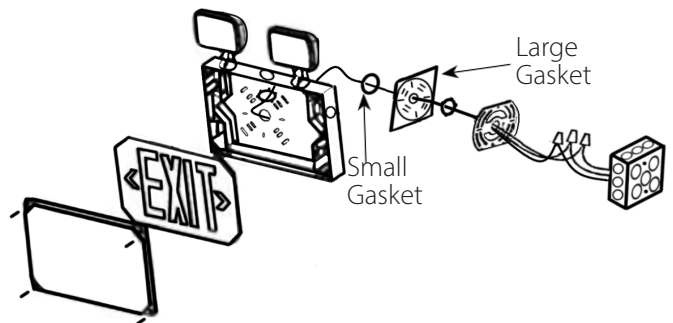

Figure 4 - Back Mount
- Feed the power supply through the knockout. Direct the input wires along the walls of the fixture to protect the wires and prevent shadowing. Run the wires through the mounting bracket as seen in Figure 4.